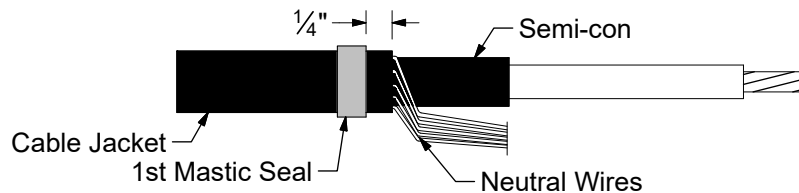

Figure 2
3. Select one of the mastic strips from the kit and remove the white release liners. Using light tension apply a single wrap of mastic around the cable jacket 1/4" from the edge. Cut off excess mastic. See Figure 2